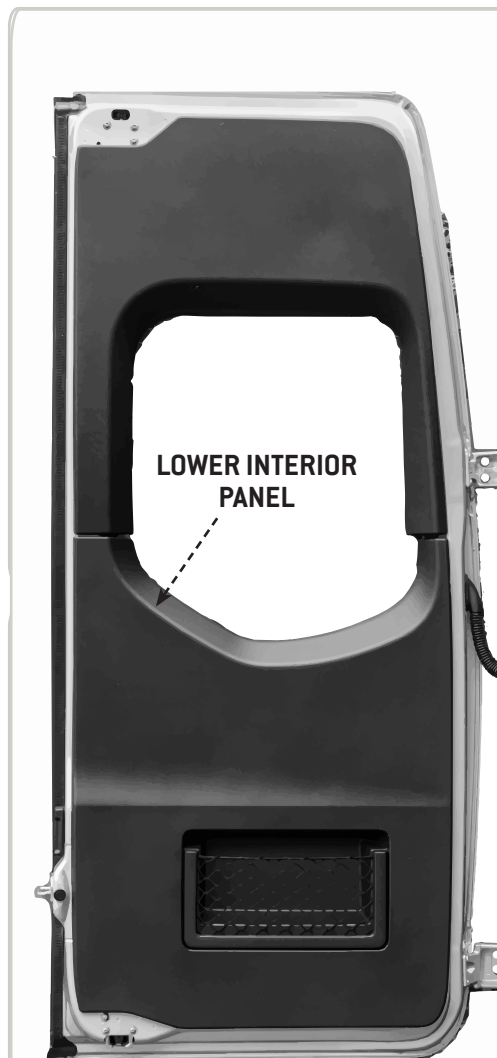

FIG 1
1.1 Door Panel Removal: If applicable, start by removing the lower interior door panel (**FIG 1**) and any obstructions in the area shown in **FIG 2** (wires, insulation, etc.). We recommend using plastic panel removal tools (easily found at harbor freight or similar). Be gentle when prying as to not break the factory panel clips. Once you get the first few popped you should be able to pull it the rest of the way with your hands.
NOTE- You may have any number of different door configurations- stock full trim (**Pictured FIG 1**), stock half trim, stock panel, upholstered wood, etc. Each require their own removal method. Please note that the panel-style trimmed door requires additional drilling and the use of the provided **panel plug** (**See Step 2.5**).